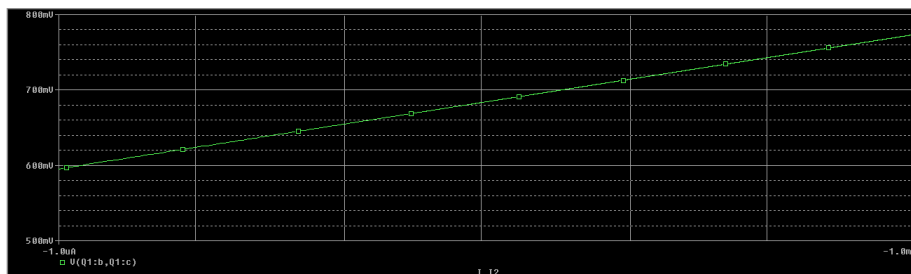

Figure 5: BC Junction Parameter Extraction Graph
7. Run the simulation. Change the x - axis to be logarithmic, using the button in the toolbar menu and adjust and label the axis. The graph should be similar to the one in Figure 5.